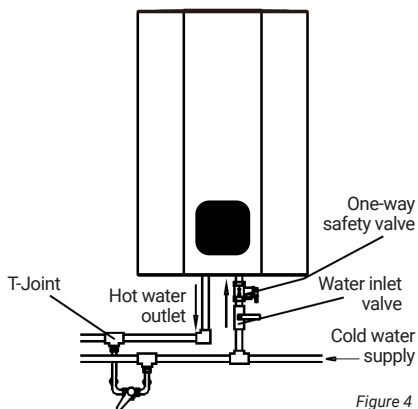

Figure 4
- (8) If users want multi-channel water supply, they can connect the water pipe according to the method shown in Fig 4.
- (9) After confirming that the rated values of electricity meters, wires, switches, sockets and fuses in the power supply system meet the power consumption requirements of this product, connect a separate power socket at an appropriate position to supply power to the electric water heater. The installation height of power socket from the ground shall not be less than 1.8m.